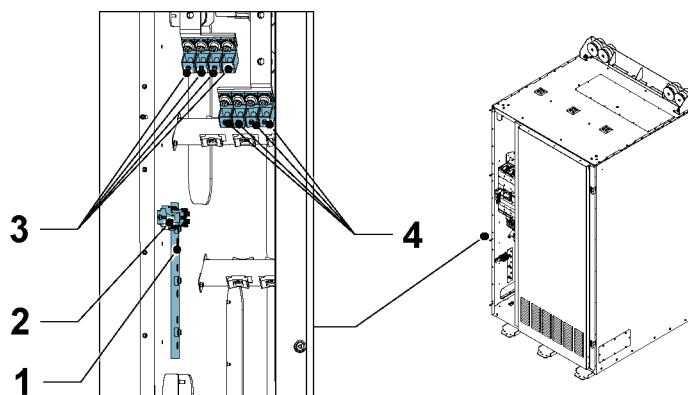

Figure 7. Battery cabinet terminals
6. Connect the signal wires and the power cables to the connectors according to Figure 7.